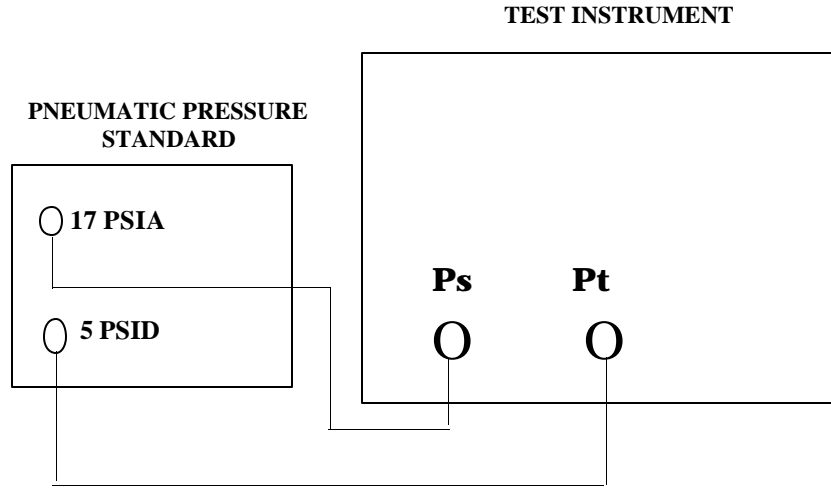

Figure 1. Calibration check (No. 1).
- a. Connect the equipment as shown in figure 1.